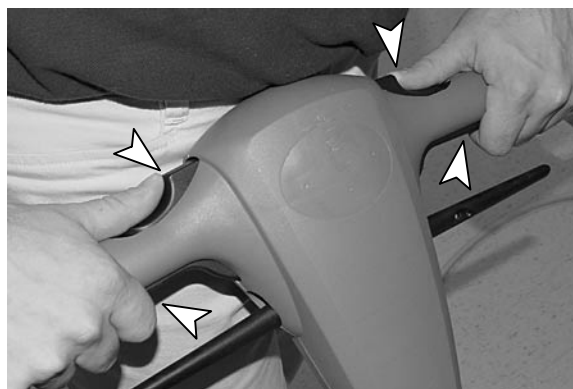

FIG. 11
4. To begin scrubbing, hold the handles firmly, depress the safety lock levers and pull the On/Off levers. Release safety lock lever once machine starts (Figure 11).